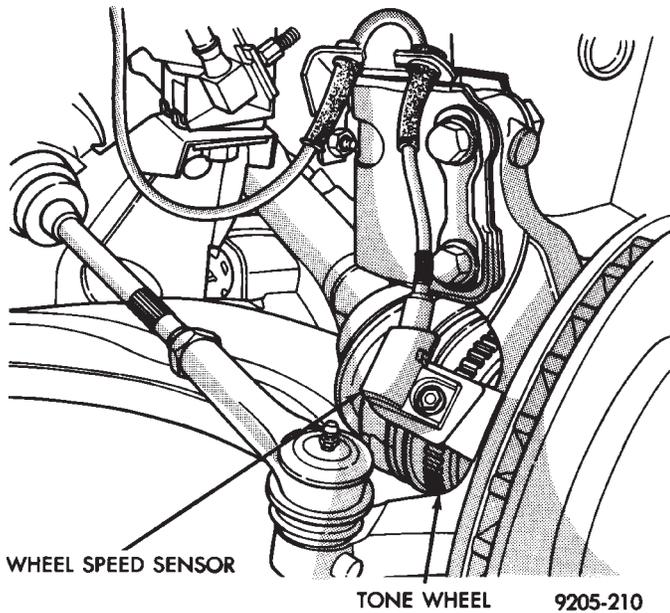

Fig. 12 Front Wheel Speed Sensor Routing
FRONT WHEEL SPEED SENSOR (FIG. 12)**REMOVAL**
(1) Raise vehicle and remove wheel and tire assembly.
(2) Remove screw from grommet retainer clip that holds the grommet into fender shield (Fig. 12).
(3) Remove the 2 screws that fasten the sensor routing tube to the frame rail.
(4) Carefully, pull sensor assembly grommet from fender shield.
(5) Unplug speed sensor connector from vehicle wiring harness.
(6) Remove the sensor assembly grommets from the retainer brackets.
(7) Remove sensor head screw.
(8) Carefully, remove sensor head from steering knuckle. If the sensor has seized, due to corrosion, **DO NOT USE PLIERS ON SENSOR HEAD.** Use a hammer and a punch and tap edge of sensor ear, rocking the sensor side to side until free.